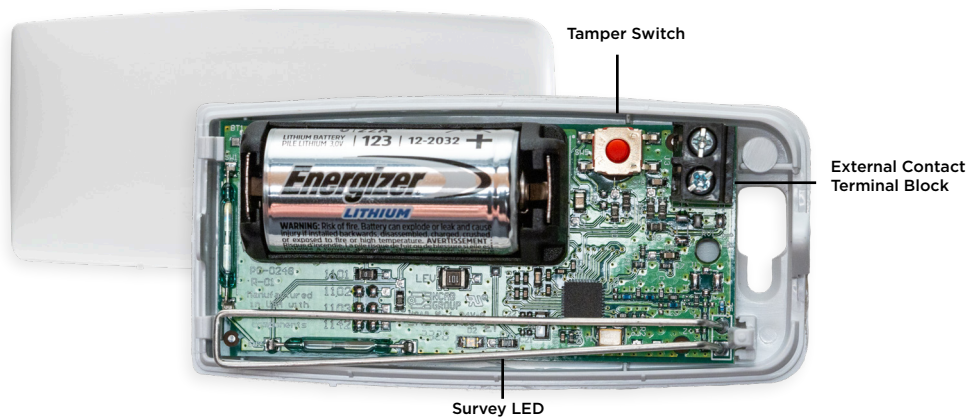
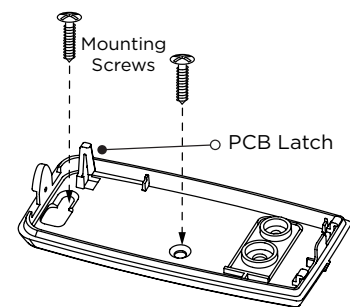

Figure 1: 1101 Layout
Figure 2: Mounting the Transmitter
2. Observing polarity, place the battery in the holder and press it into place. Refer to Figure 1 during installation.
When mounting the transmitter, refer to Figure 1 and Figure 2 for battery and mounting hole locations.
3. Use the provided #4 screws to mount the base. See Figure 2.